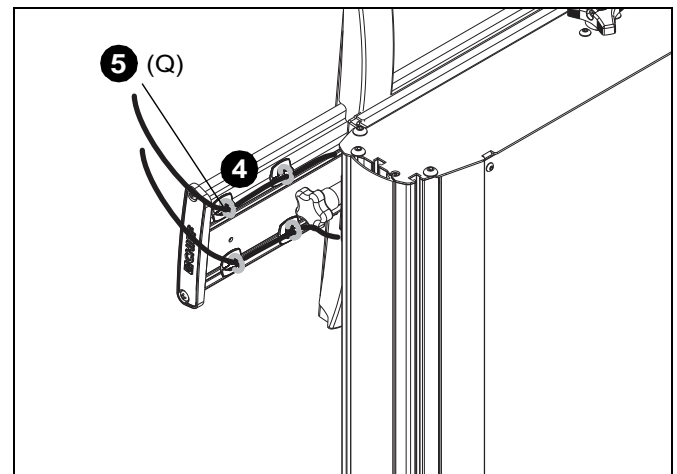

Figure 19
4. Route cables along FCA clips (P) to be used for cable management. (See Figure 19)
5. Use cable ties (Q) to secure cables to FCA clips. (See Figure 19)